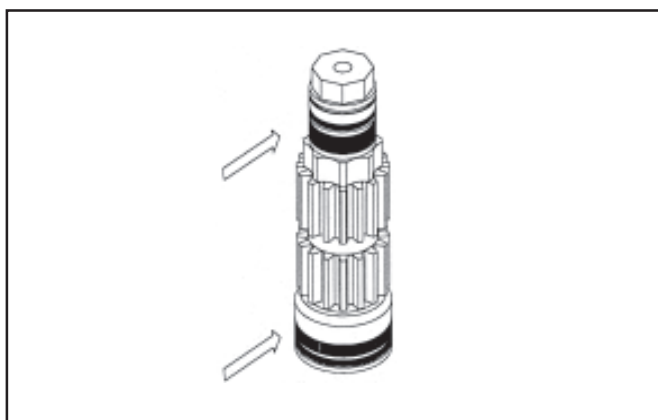

Fig. 20
(Figures 20, 21a and 21b)
- Grease the outside surface of the drive shaft on top and bottom as shown in figure 20.
- Insert partially the drive shaft (30) in the body (29).